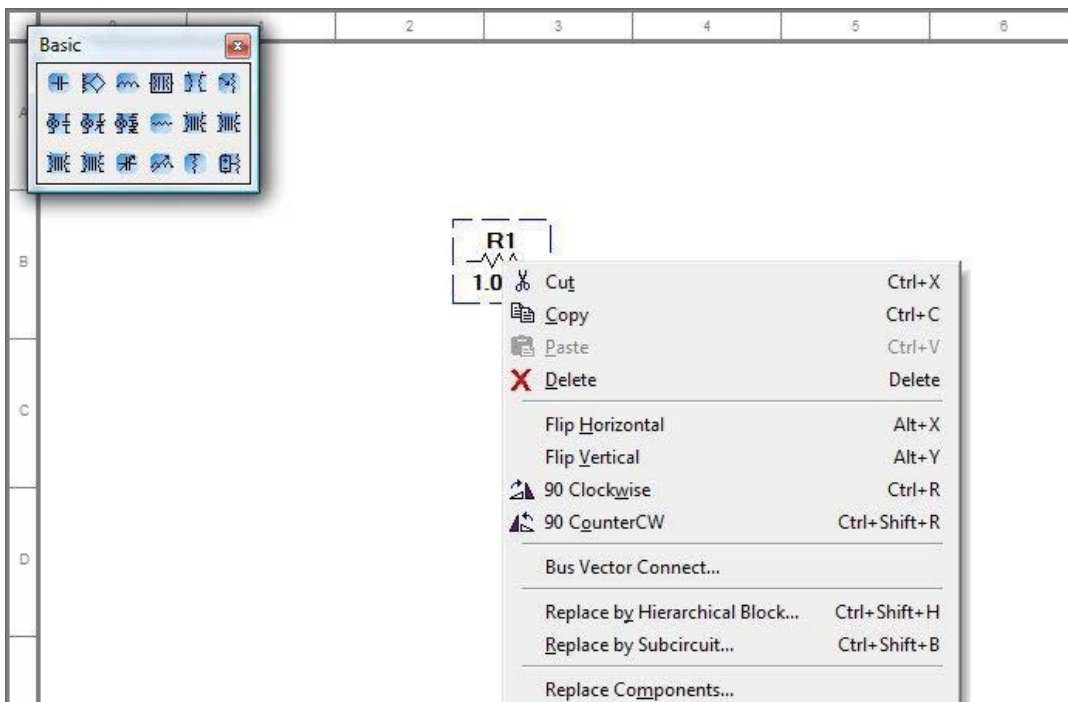

Figure 9
2. Now make four copies of the resistor. First, right click on the resistor, scroll down and select copy, and then left click on it. See Figure 9.